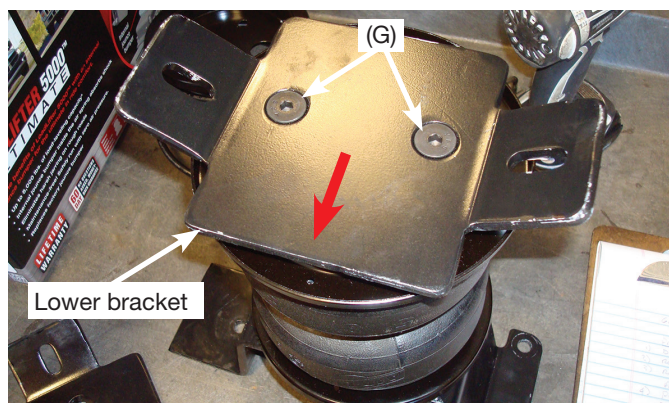

fig. 14
4. Install the lower bracket (C) onto the bottom of the air spring using the flat-head screws (G) (fig. 14). Torque to no more than 20 lb.-ft. (27Nm).